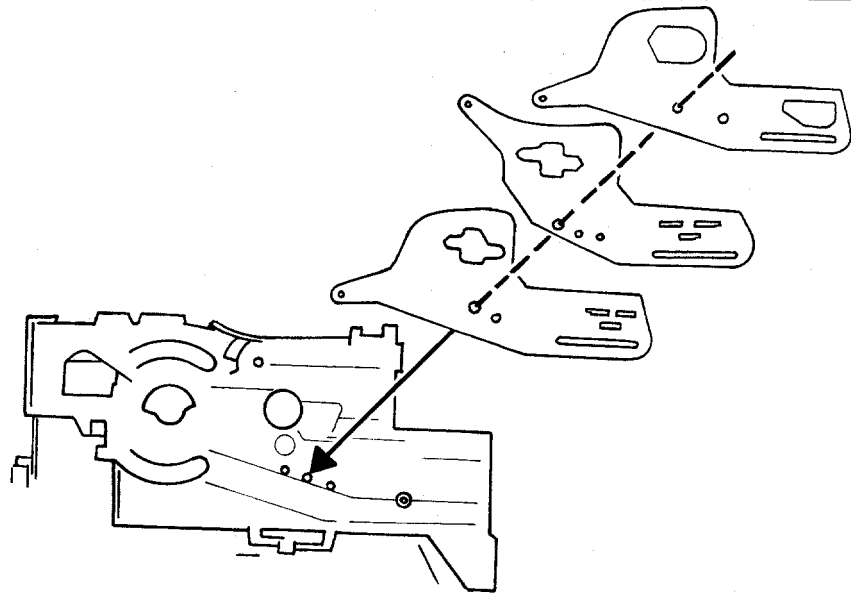

Fig. 31 Replacing the Shutter Blades
35. Reassemble the Shutter blades by inserting a dowel pin $\frac{3}{32}$ " x $\frac{3}{4}$ " (2.4 x 19 mm) in the hole in the Base Block shown in Fig. 31. Wearing finger cots or lintless gloves, install the bottom, middle and top Shutter Blades over the $\frac{3}{32}$ " dowel pin, and with the molded pin on Base Block projecting up through the slot in Blades (Fig. 31).